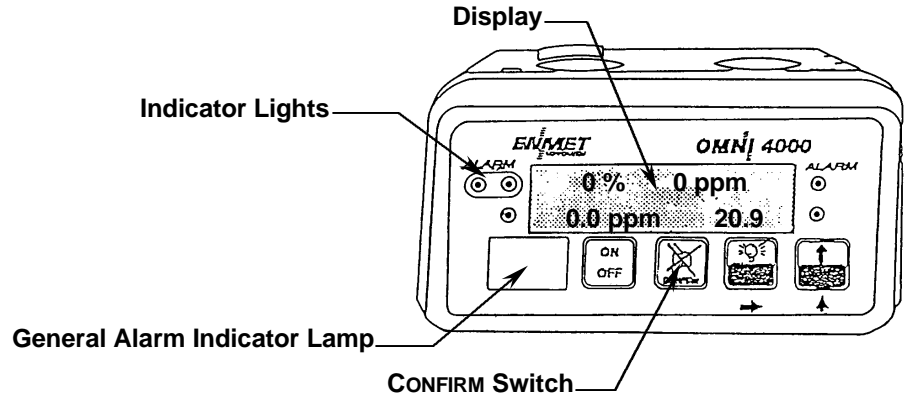

Figure 2-17: Explosive Gas Alarm Features
- Find out which channel or channels are in alarm by means of the channel alarm indicator lamps. See Figures 2-17, 2-18, and 2-19. The corresponding quadrant alternately displays "ALARM", the reading and the type of gas.
LEL ALARM (Figure 2-17)